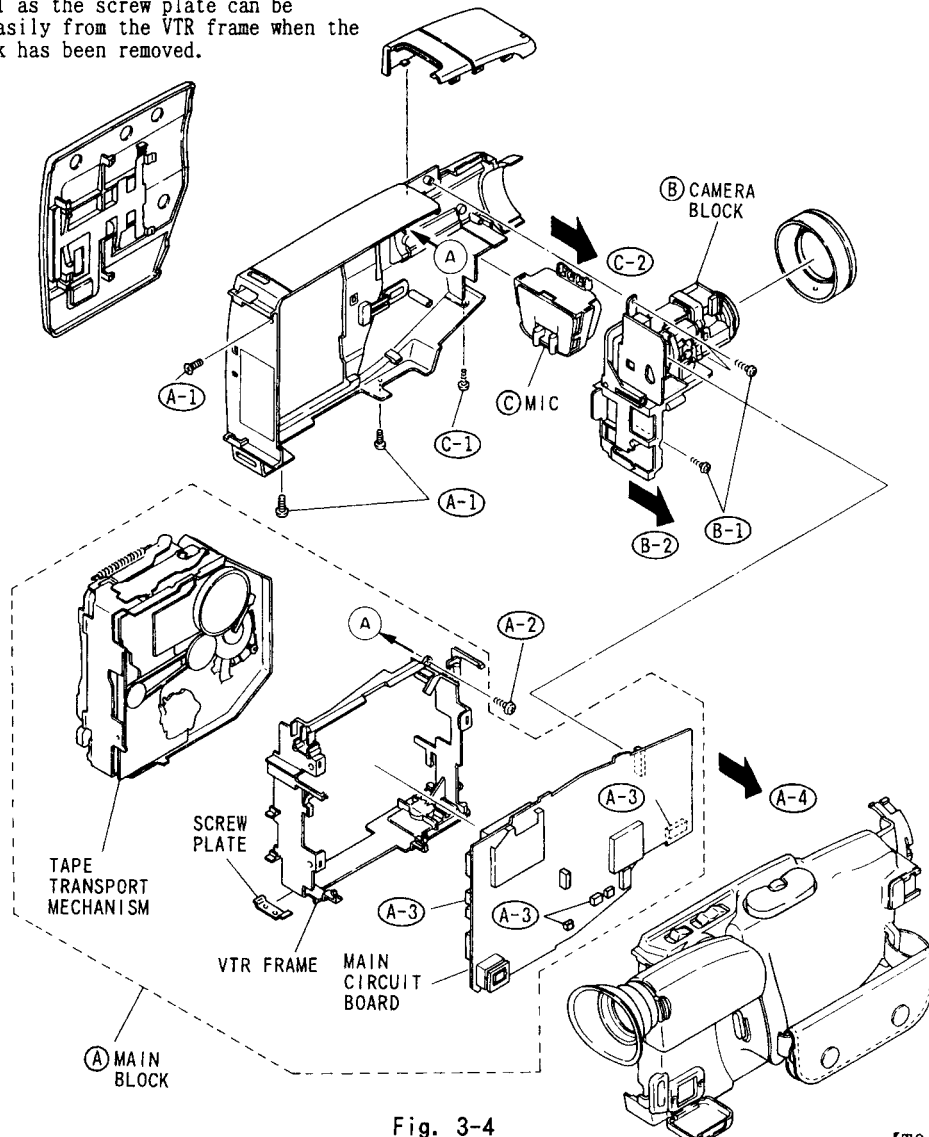

Fig. 3-4
B. Camera Block (Fig. 3-4)
- 1) Remove three (3) screws.
C. Microphone (MIC) and Left Case (Fig. 3-4)